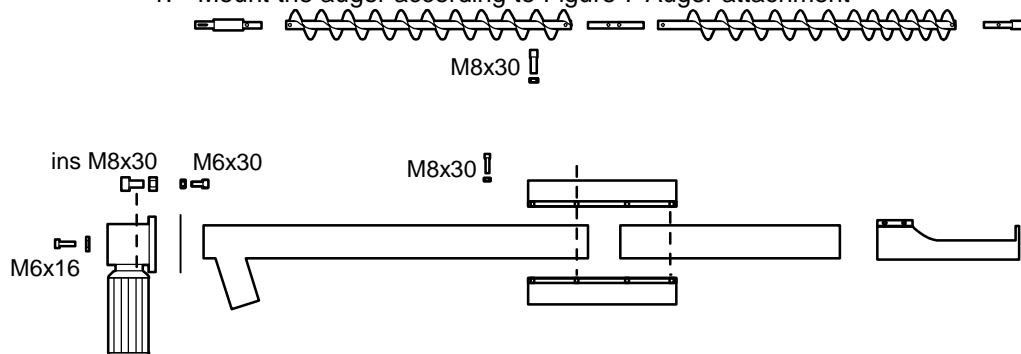

Figure 7 Auger attachment
1. Mount the auger according to Figure 7 Auger attachment